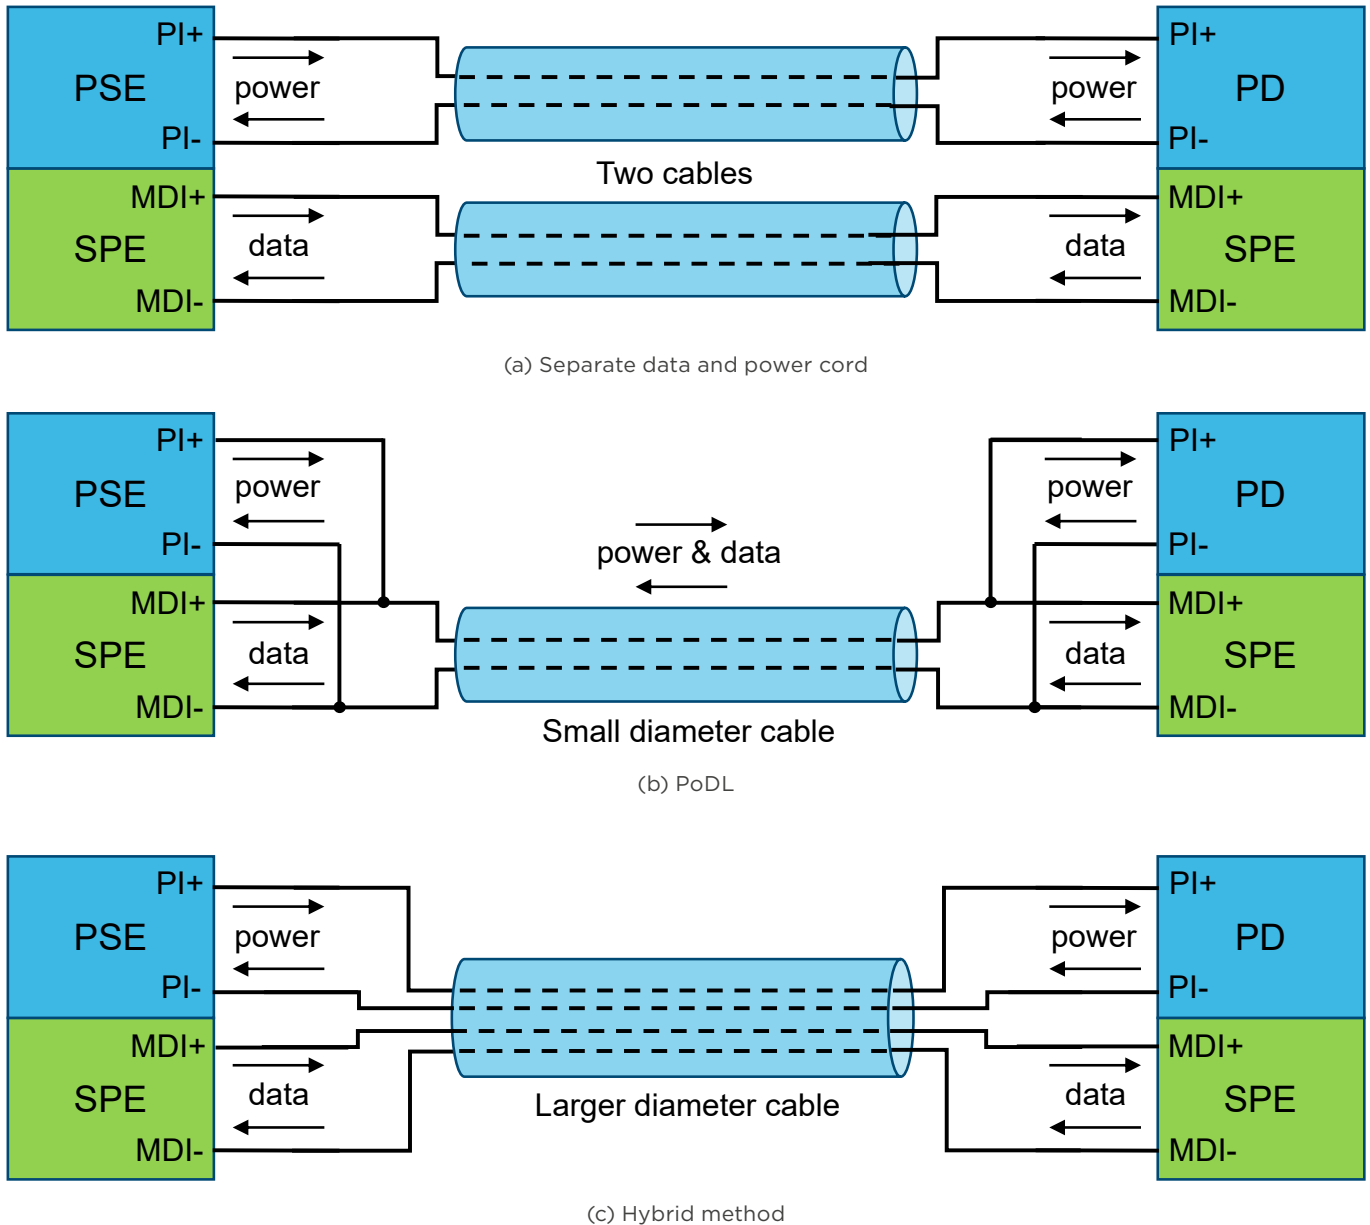

Figure 1: Powering methods
There are three different ways to power a device connected with SPE, which are using a separate power and data cord, using PoDL and using a hybrid powering solution. Each of them is visualized in Figure 1 and they all show how the data is transmitted from SPE to SPE module and the power from the power sourcing equipment (PSE) to the powered device (PD). Their advantages and disadvantages are discussed below.